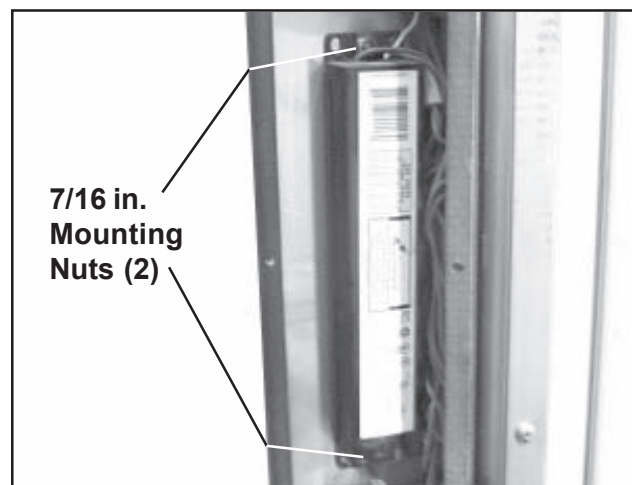

Figure 30. Ballast Mounting Nuts
9. With a 7/16 in. nut driver, remove the top and bottom mounting nuts (Figure 30) and remove the ballast from the light fixture.
1. Install the new ballast into the fixture and secure with the two 7/16 in. nuts removed earlier (Figure 30). The black and white wires must be on top.